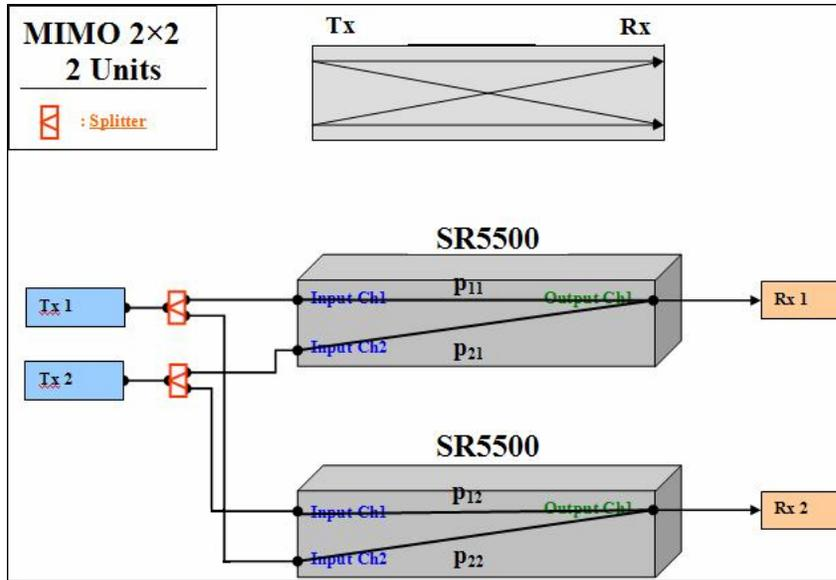

Figure 2-1: RF Connections for a SR5500 Based 2 x 2 MIMO System
1. Connect the two transmitters to the two SR5500's using the supplied RF splitters (e.g. Mini-Circuits B76-1006) as shown in Figure 2-1.